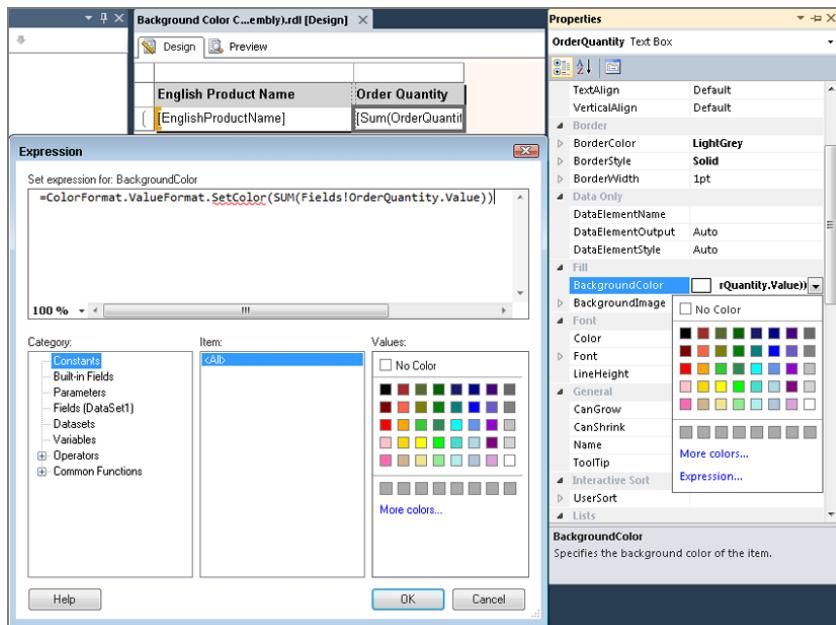

Figure 8-15
6. In the Expression window, use the following code to call the assembly and pass in the value from the `OrderQuantity` field as a parameter (shown in Figure 8-15):